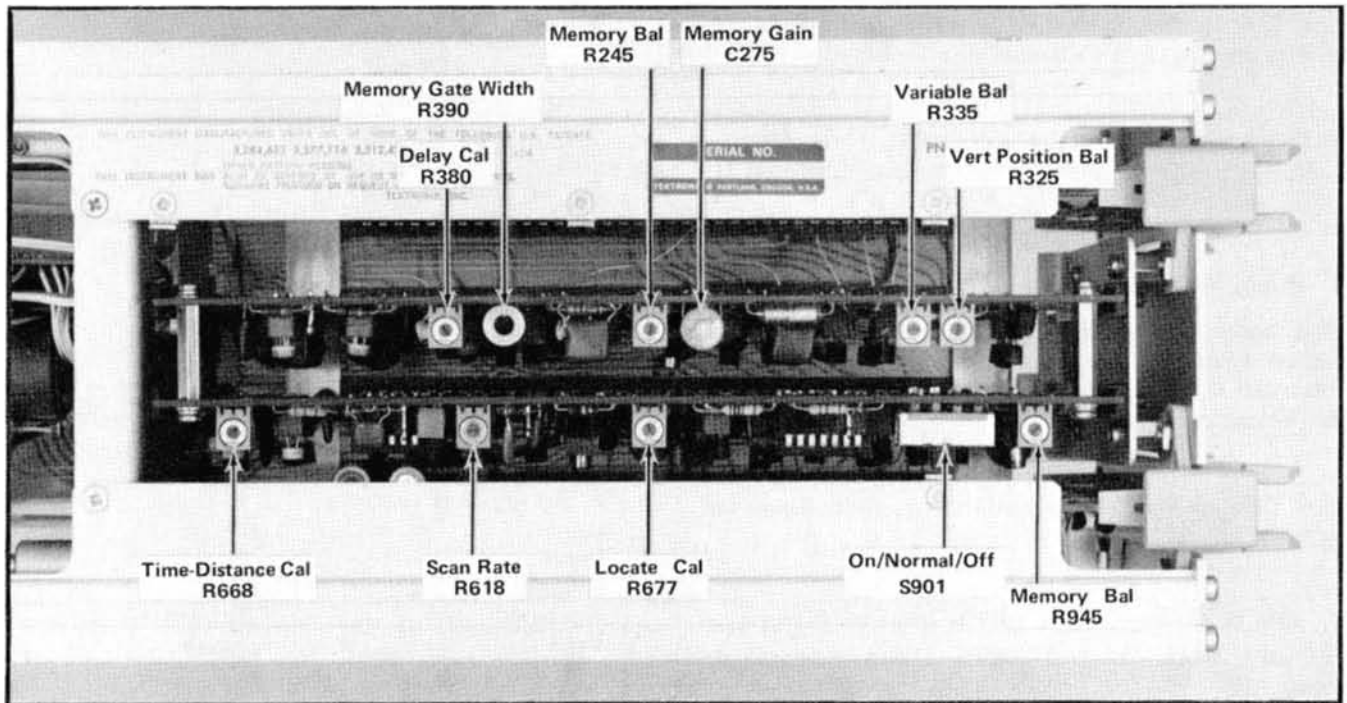
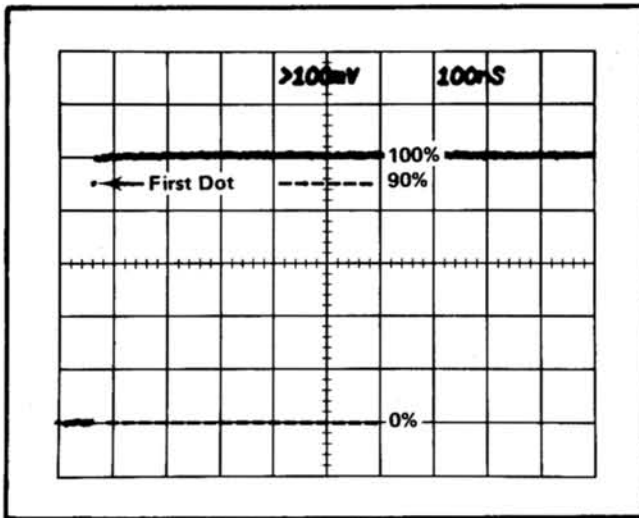
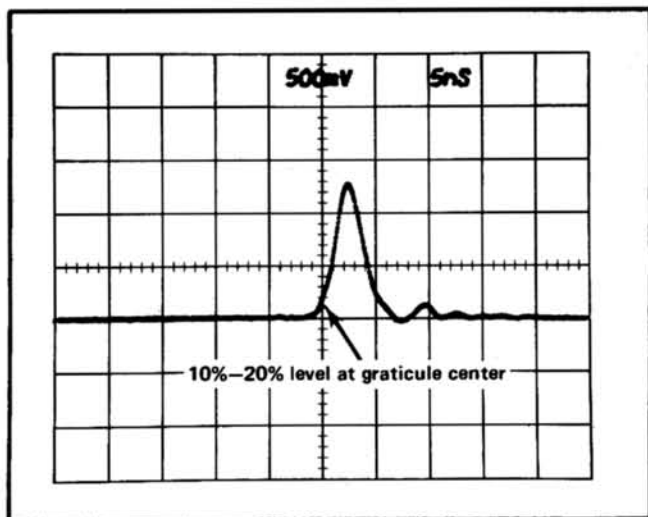

Fig. 5-11. Control locations on the Vertical and Horizontal cards.
Fig. 5-13. Waveform for Memory Gate Width control R390 and Memory Gain control C275 adjustments using a Sampling Head.
Fig. 5-14. Delay Calibrate control R380 adjustment waveform.
j. ADJUST the Memory Gain control C275 to obtain 1 V (5 div) separation of the two traces. See Fig. 5-11 for the control location.
h. ADJUST the Memory Gain control C275 to place the first dot above the 0% level at the 90% level (4.5 div above the 0% level). See Fig. 5-11 for the control location and Fig. 5-13 for the waveform.
g. ADJUST the Memory Balance control R245 to set the VERT SIG OUT at 0 V. See Fig. 5-11 for the control location.
graticule line 0). See Fig. 5-11 for the control location and Fig. 5-14 for the waveform.
f. ADJUST the TIME-DISTANCE Calibration control R668 so that the tenth marker from graticule line 5 is placed on graticule line 5. See Fig. 5-11 for the control location and Fig. 5-4 for the waveform.